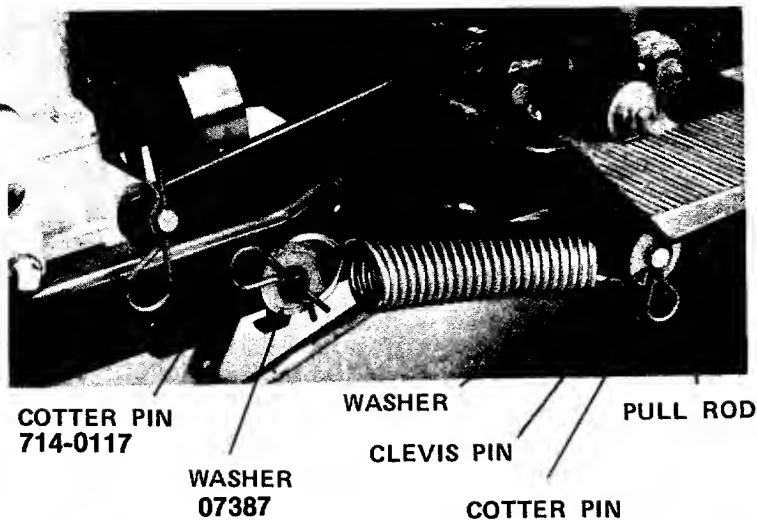

FIGURE 14
4. Hook one end of spring on clevis pin as shown in figure 14.
5. Place the pull rod, flat washer and cotter pin back on the clevis pin as shown in figure 14.
7. Secure the spring with a flat washer (07387) and a cotter pin (714-0117) which is provided with the springs. See figure 14.
3. Remove cotter pin, flat washer and pull rod from clevis pin at location shown in figure 14.